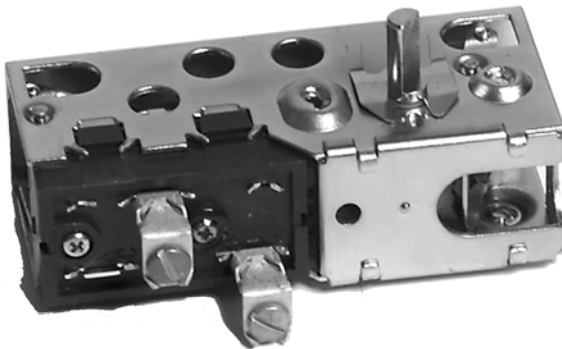

Fig. 40. Installing Screw Terminals.
6. Snap two Screw Terminals over the blade terminals on the Control Assembly. See Fig. 40
7. Snap two Screw Terminals over the blade terminals on the Control Assembly. See Fig. 40.